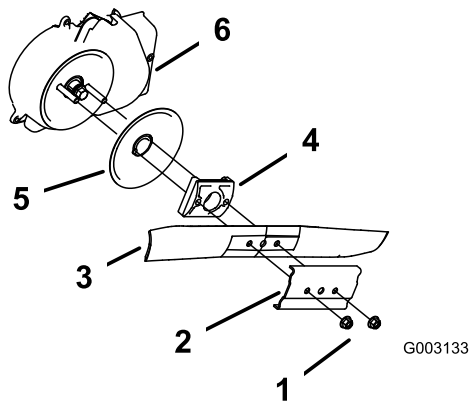

Figure 45
3. Remove the 2 blade nuts and the stiffener (Figure 45).
4. Remove the blade (Figure 45).
5. Remove the blade driver and disk (Figure 45).
6. Remove the blade-brake-clutch shield (Figure 45).
10. Install the blade and the stiffener that you previously removed (Figure 45).